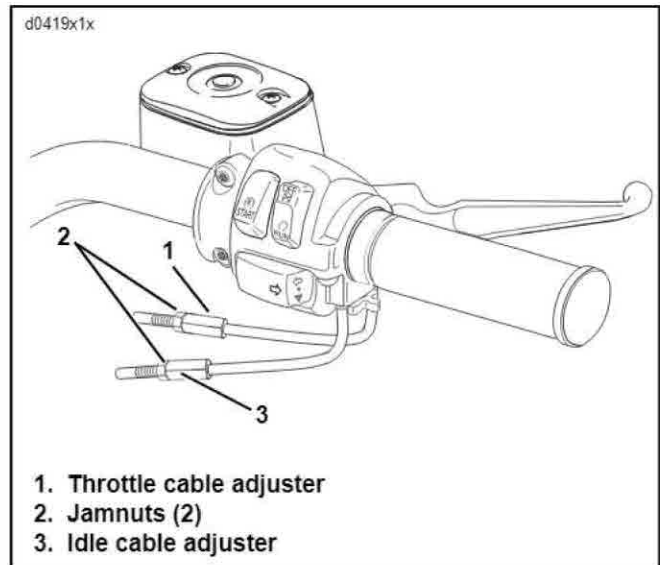
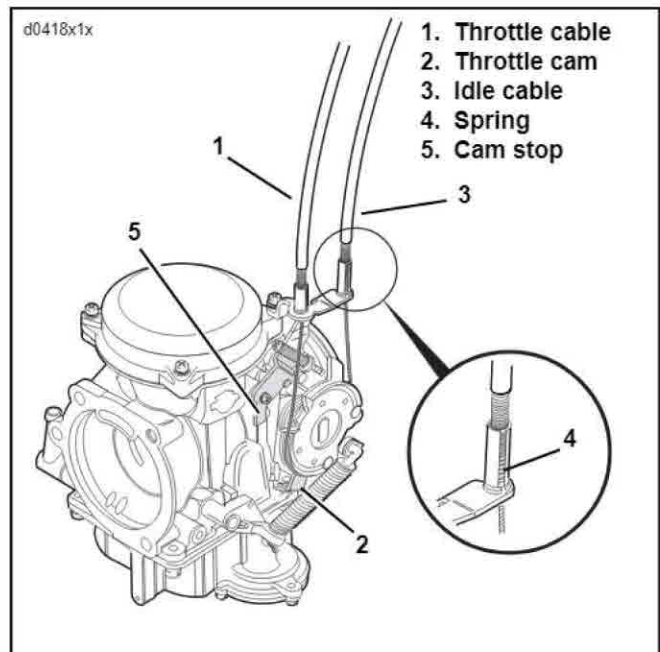

Figure 7. Throttle Cable Adjusters
Figure 8. Idle Cable Connection
1. See Figure 7. Turn the cable adjusters (1 and 3) and jamnuts (2) as short as they will go. Both cables should have zero adjustment at the start of this procedure.
- b. See Figure 7. Turn the throttle cable adjuster (1), lengthening the sleeve, until the throttle cam (2) just touches the cam stop (5) in Figure 8.
- c. See Figure 7. Tighten the adjuster jamnut, and release the throttle.
4. See Figure 7. Turn the idle cable adjuster (3), lengthening the sleeve until the cable housing just touches the spring (4) in the cable support sleeve in Figure 8.